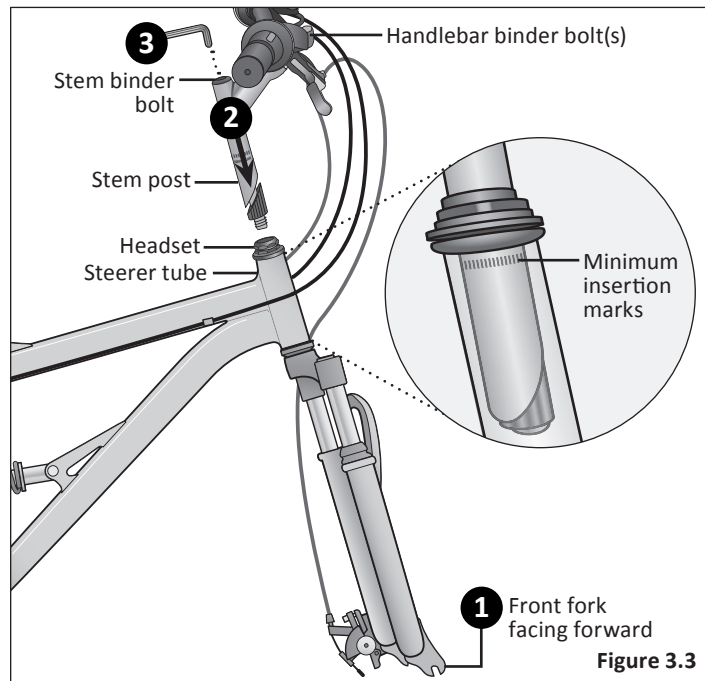

Figure 3.3
- Turn the front fork to face forward. **Figure 3.3**
- ❶ Turn the front fork to face forward (ie: the fork dropout is in the furthest forward position). **Figure 3.3**